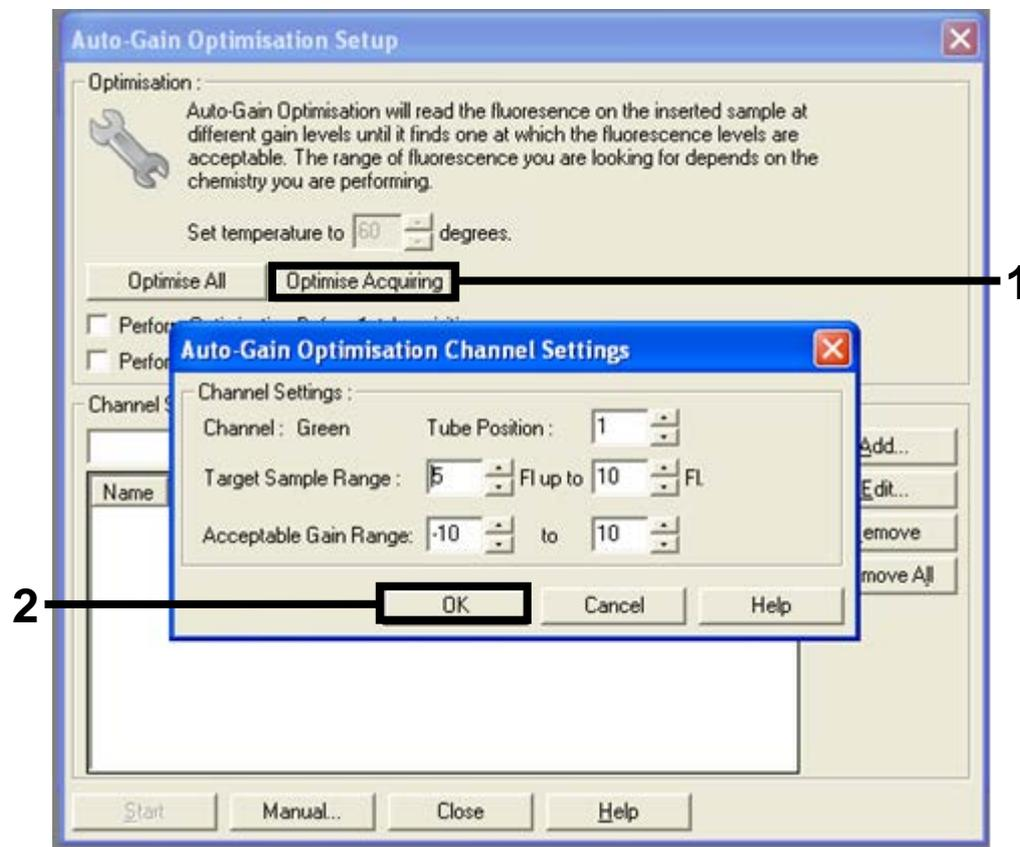

Figure 31. Auto-gain optimization for the Green channel. (1 = "Optimise Acquiring" button, 2 = "OK" button).
13. Click the "Optimise Acquiring" button. Channel settings are displayed for each channel. Accept these default values by clicking "OK" for both channels (Figure 31).